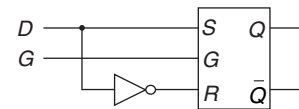

Fig. 12.13 The S-R Latch with a Data Input (D) and a Single NOT Gate to Produce the D-type Latch.
S-R and clocked S-R latches have limited use, and possibly one of the simplest ways in which the circuit can be made more versatile is to add a single NOT gate to produce the D-type latch shown in Fig. 12.13.
12.14 Sketch the output waveforms at Q for the inputs at D and G of the gated D-latch in Fig. 12.13.